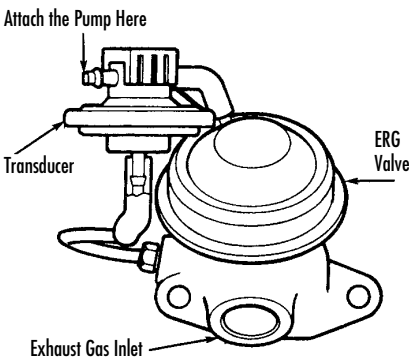

FIGURE 12: TEST THE VACUUM SOURCE FOR THE BPV WITH YOUR PUMP
- 1) Remove the air cleaner and plug the intake manifold fitting. Start the engine and bring it to normal operating temperature. Position the fast-idle cam follower on the second step of the fast-idle cam (to obtain about 1500 RPM), and then note engine speed on a tachometer. Use the pump to check the source vacuum at an intake manifold port (FIGURE 12). Note this reading.